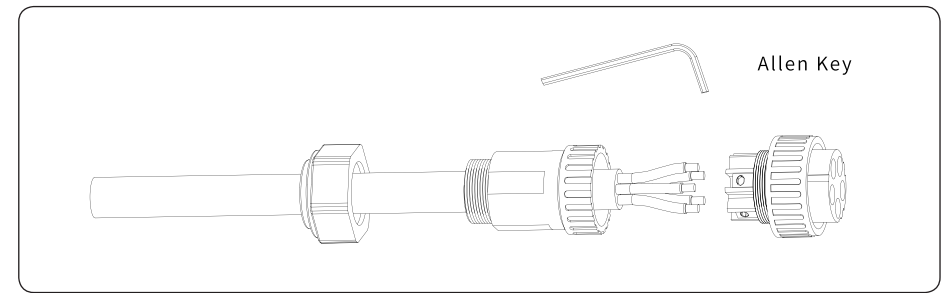

Figure 4-16
3) Insert the stripped end of the five wires into the appropriate hole of the terminal head by following the rules: yellow green wire to PE port, red or brown fire wires to L ports (no requests for the sequence of three fire wires), and blue or black wire to the N port. Please try to pull out the cable to make sure it is well connected. As shown in Figure 4-16: